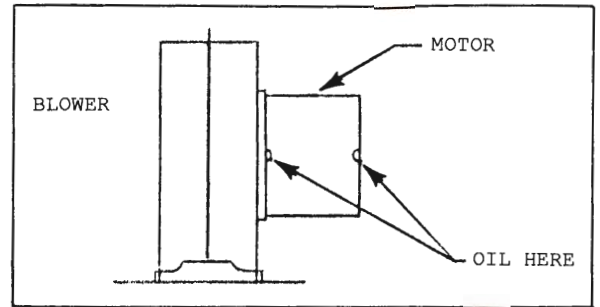

Figure 4-1
1. The blower motor must be oiled periodically (every 3 to 6 months depending on the amount of dirt in the incoming combustion air), with five drops of SAE 20W oil in each oiling hole (see Figure 4-1). Also make sure that the squirrel cage in the blower is kept clean. If dirt becomes a problem, installation of outside air intake ducts for combustion is recommended.